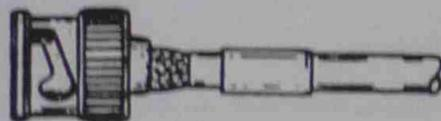

Figure 77 Assembling plug body
- Insert the crimped centre contact into the plug body and fit the cable braid over the support sleeve as shown in Figure 77.